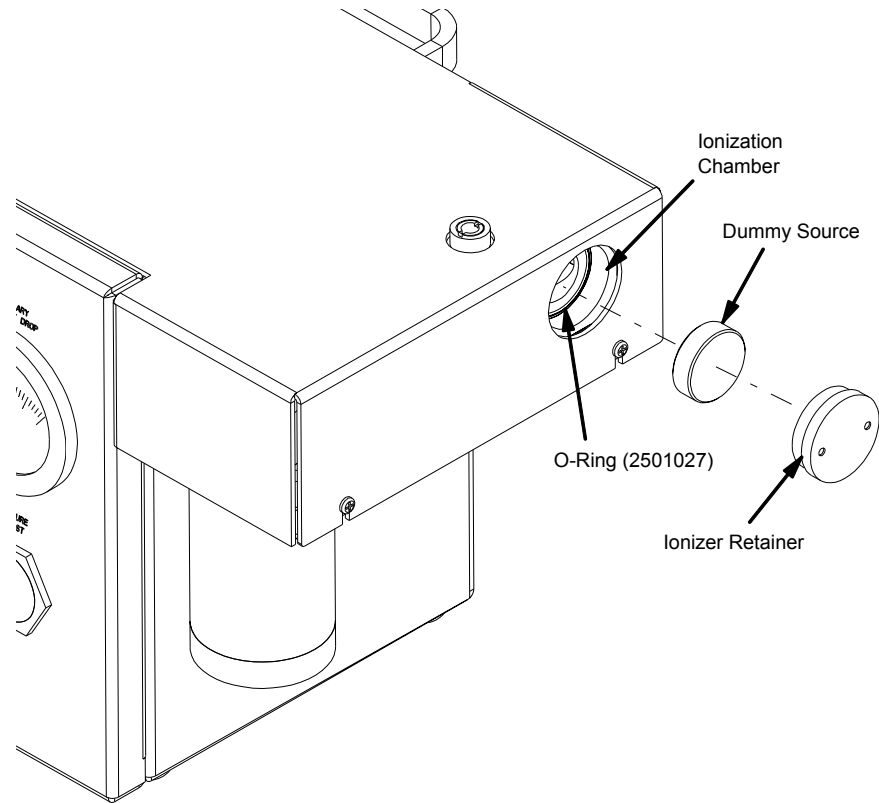

Figure 2-2
1. Remove the ionizer retainer shown in Figure 2-2 using the ionizer retainer tool supplied in the accessory kit, and set the dummy source aside.